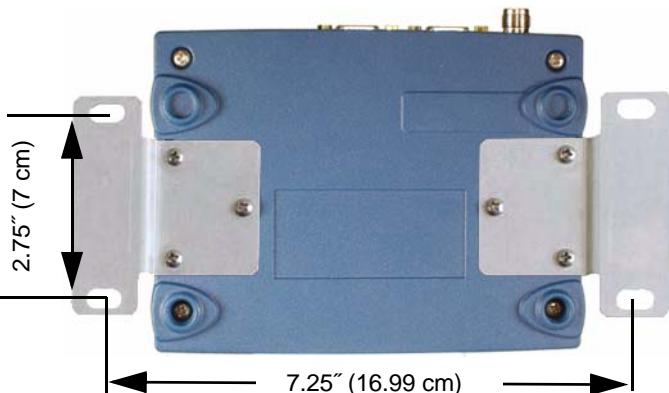

Figure 3. Mounting Bracket Dimensions
1. **Mount the transceiver** using the brackets supplied. Attach the brackets to the bottom of the transceiver case (if not already attached), using the four 6-32 x 1/4 inch (6 mm) screws supplied. Mounting bracket dimensions are shown in Figure 3. If DIN Rail mounting brackets are to be used, consult the *Reference Manual*.